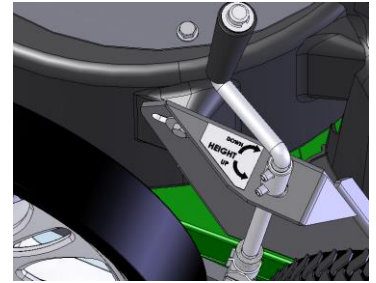

Fig. 10
**For maximum pickup:** Adjust nozzle height as close to debris as possible, but without blocking airflow into the nozzle. **NOTE:** Never bury nozzle into debris. The vacuum nozzle is raised and lowered by turning the crank handle clockwise and counter-clockwise. (See Fig. 10)